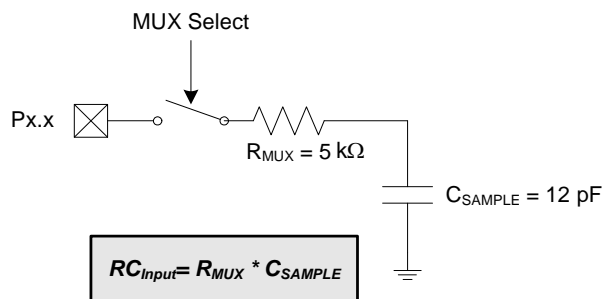

Figure 5.6. ADC0 Equivalent Input Circuits
Figure 5.6 shows the equivalent ADC0 input circuit. The required ADC0 settling time for a given settling accuracy (SA) may be approximated by Equation 5.1. When measuring  $V_{DD}$  with respect to GND,  $R_{TOTAL}$  reduces to  $R_{MUX}$ . See Table 5.3 and Table 5.4 for ADC0 minimum settling time requirements.